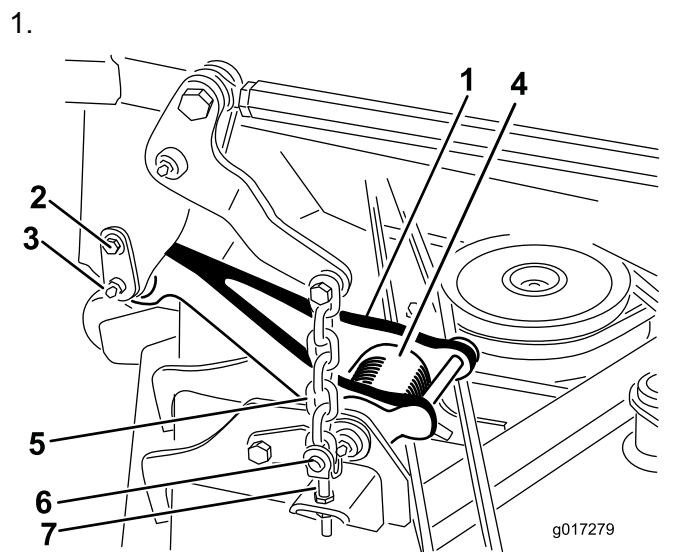

Figure 1
Note: When the deck is in the raised position, the pull-link torsion spring tension (Figure 1) is reduced, making it much easier to disconnect the pull links from the machine.
2. Disconnect the pull link from each side of the machine (Figure 1).
- A. Remove the shoulder screw that secures the retainer pin to the carrier frame (Figure 1).
- B. Carefully slide the retainer pin from the carrier frame and the pull link (Figure 1).
5. Remove the bolts and nuts that secure the 4 lift chains to the lift arms on the deck (Figure 1).